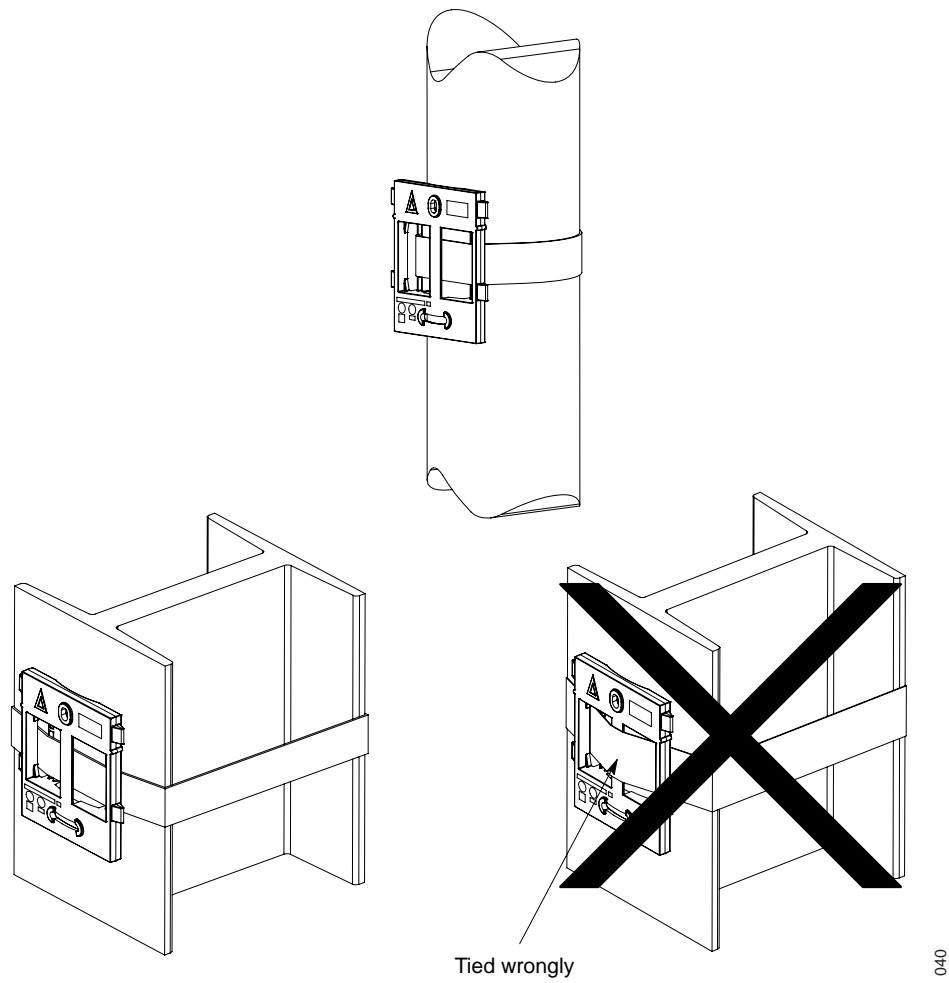

Figure 12. Fixing the mounting bracket to a pole or beam
- 1 Fix the mounting bracket to a pole or beam using the metal band, see figure 12.